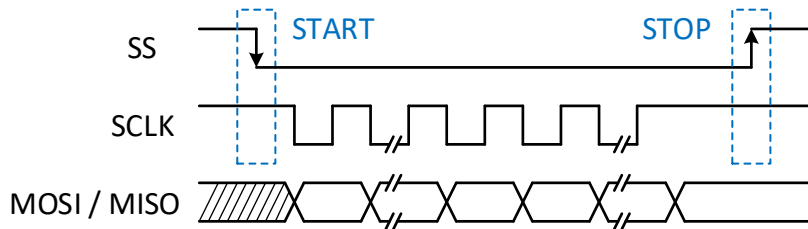

Figure 28. MODE3 timing
- Figure 28 illustrates MODE3. In MODE3, the clock idle state is high, and the first data bit of a transfer is captured (by either the host or target) on the first clock transition of the transfer.